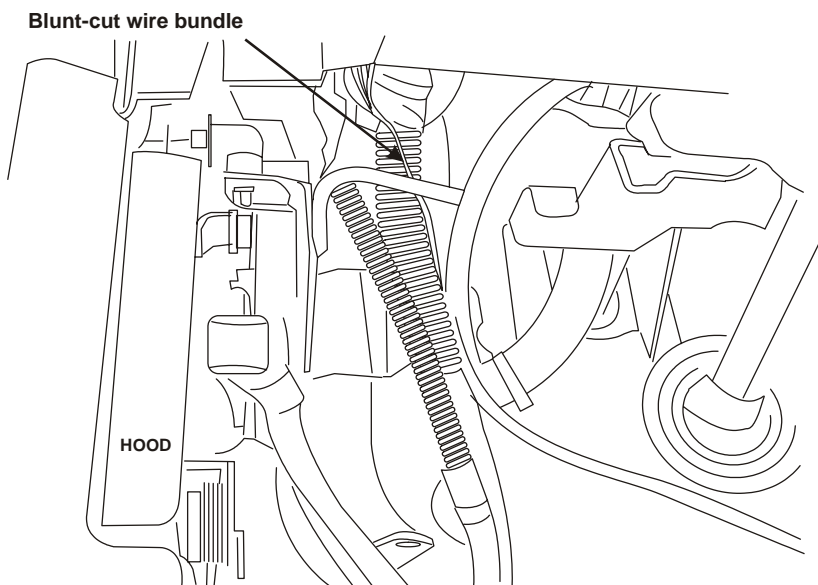

Figure 4.7
- ☐ Solder and seal the white “OEM Clean Tach out” wire from the throttle control box to the green wire with a white stripe (CTO – Ford CCT #76) in the bundle of blunt cut wires near the park brake (Figure 4.7).
- ☐ Solder and seal the long blue wire from the throttle control box to the yellow wire with a white stripe in the blunt-cut bundle beside the park brake under the dash (Figure 4.7).